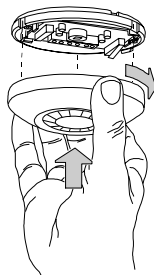

Figure 3 – Installing the Cover
D. Mount the base (equipped with the printed circuit board) in the location selected for optimum coverage. Using the two mounting holes at the back of the base fasten the unit firmly to the mounting surface to avoid possible vibrations. (Figure 3).